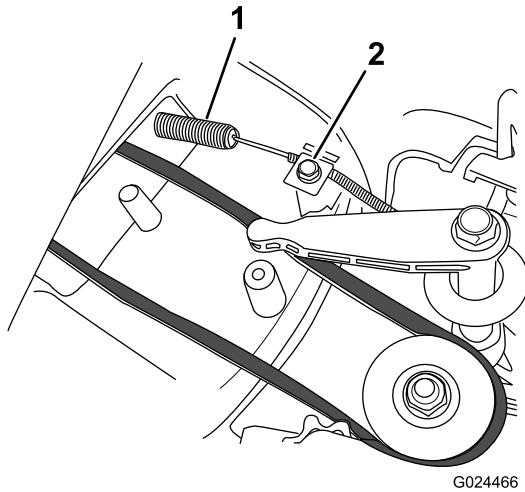

Figure 28
2. Install the new blade-brake cable, but do not tighten the cable clamp on the top of the mower housing (Figure 28).